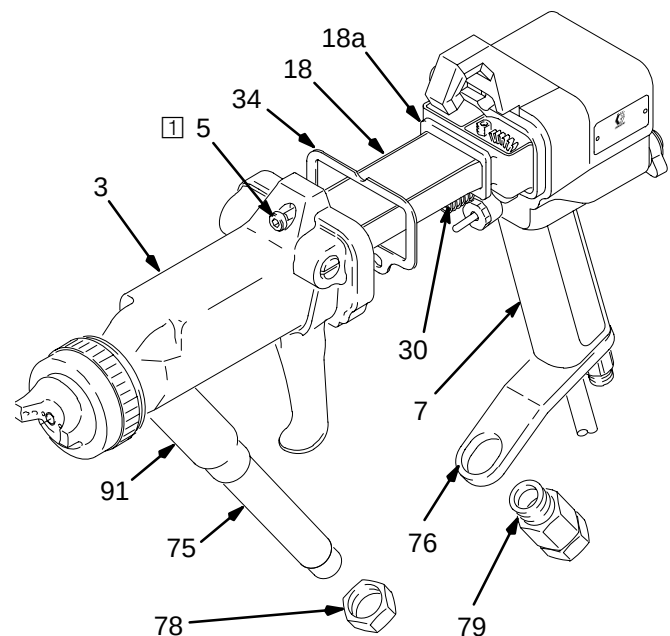

Fig. 28
1. Clean and dry the inside of the fluid inlet tube (75). See Fig. 28.
2. Be sure the gaskets (34, 18a) and spring (30) are in place. Replace the parts if they are damaged.